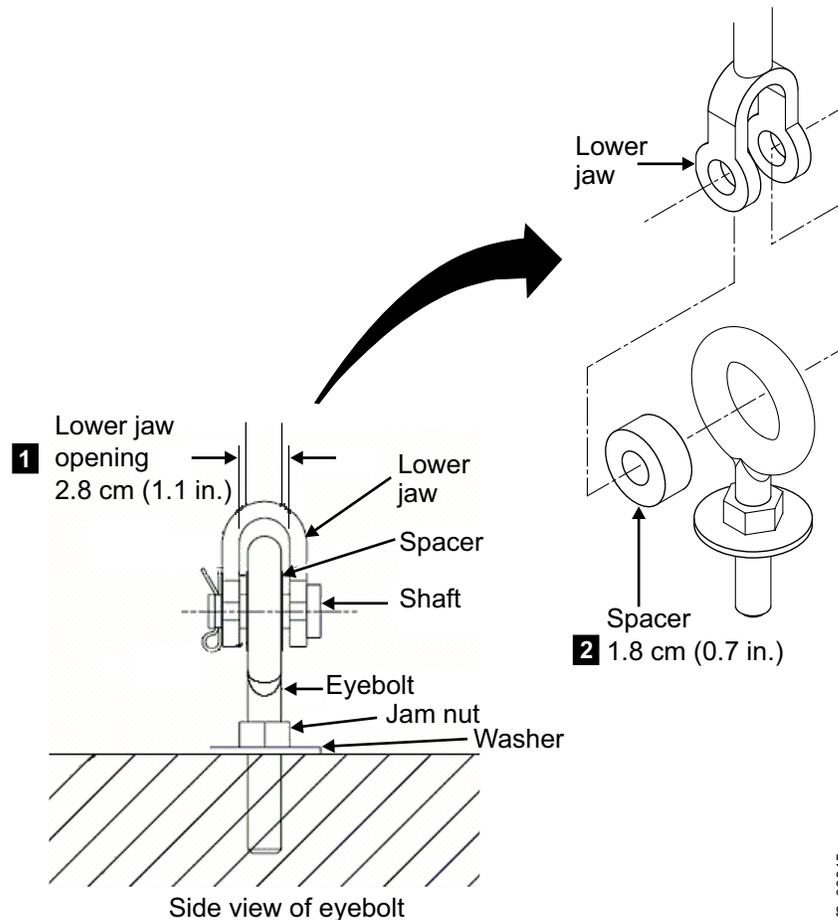

Figure 24. Eyebolt required dimensions. Dimensions are in millimeters (inches).
- The dimensions of the eyebolt must allow the turnbuckle lower jaw of the kit to fit over the eyebolt ( **1** on Figure 24 on page 159) and allow the spacer of earthquake resistance kit to fit inside the eye ( **2** on Figure 24 on page 159).